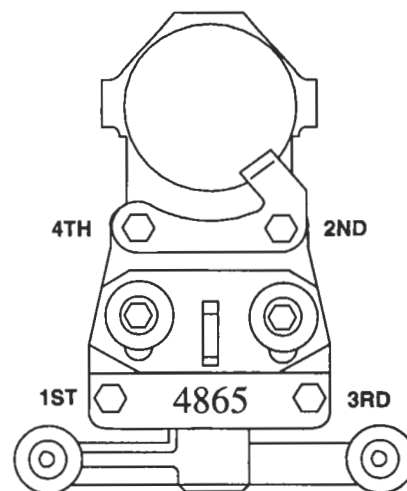

Figure 5. EUI Solenoid Torque Sequence
7. Tighten all screws until heads contact retainer and load plate with a slight force (less than 5 lb-in (0.6 N-m) torque in the sequence shown (Figure 5.)
8. Tighten screws to 19 lb-in torque in the sequence shown (Figure 5.)
9. Etch last four digits of injector part number on the load plate (Figure 5.)